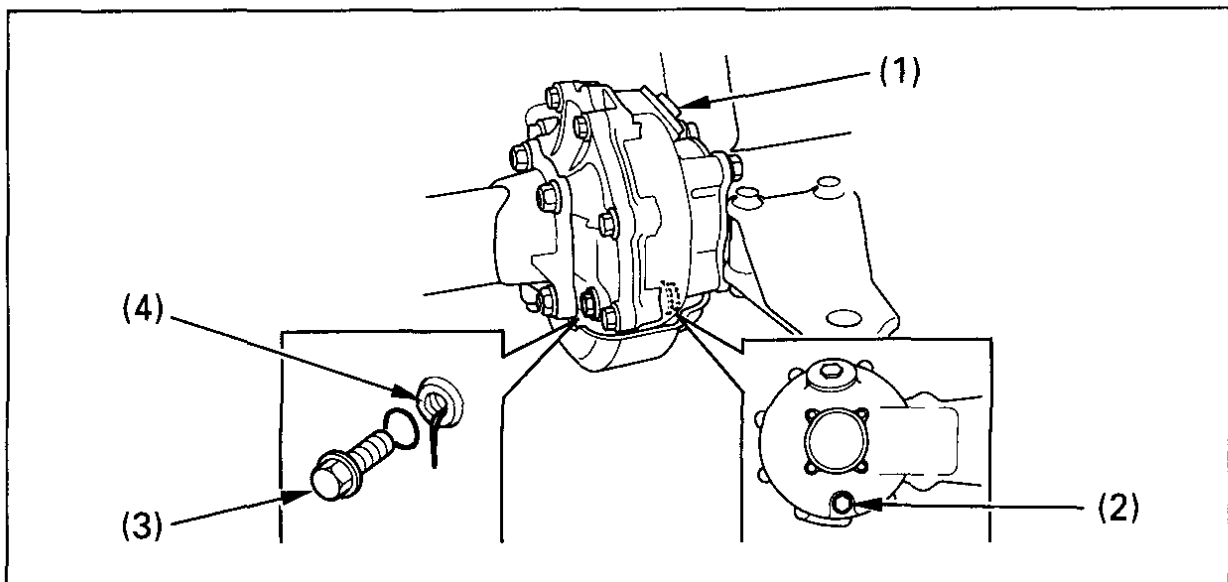

Fig. 4-14 (1) Oil filler cap (2) Drain plug (3) Oil level check bolt (4) Lower edge of oil level check hole
1. To drain the oil, first place an oil drain pan under the oil drain plug (Fig. 4-14).
2. Remove the oil filler cap (1) and the drain plug (2).